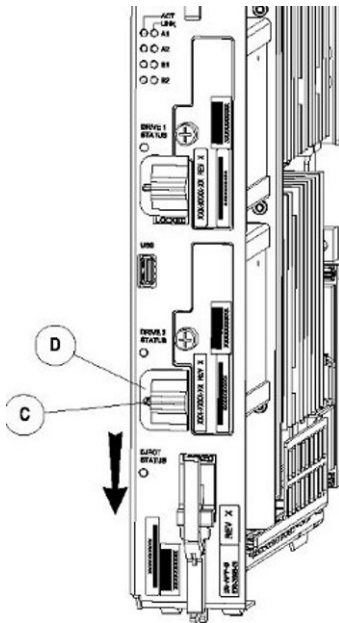
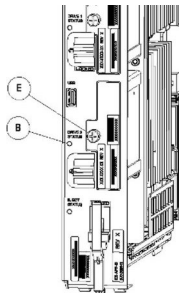

Figure 34: Drive Module UNLOCKED
Figure 35: Drive Module Status
2. Move drive module locking switch (D) from the LOCKED to the unlocked position and wait for the LED (B) to indicate a steady red state. See Figure 34: Drive Module UNLOCKED and Figure 35: Drive Module Status, respectively.
4. Loosen the drive module screw (E) (see Figure 35: Drive Module Status).